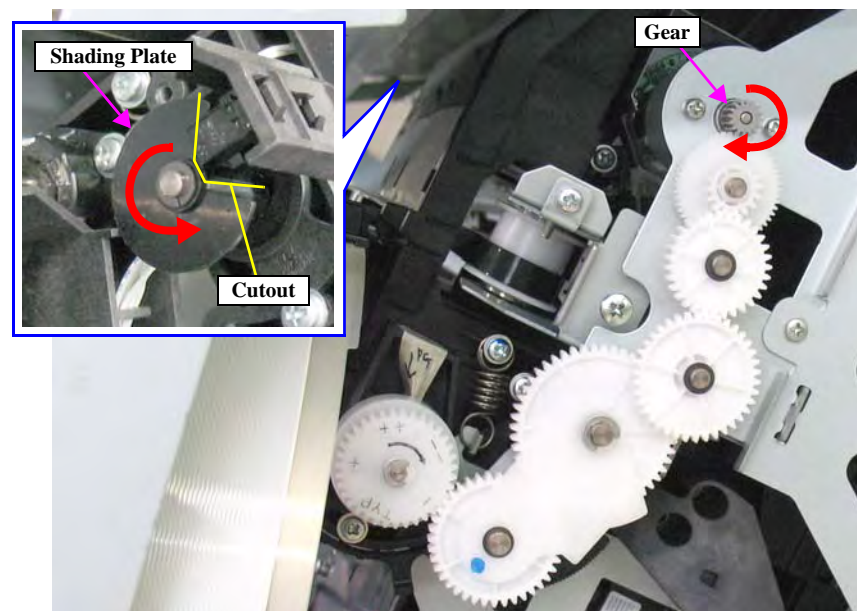

Figure 4-75. Rotating the Shading Plate
7. Rotate the gear shown in Figure 4-75 until the cutout of the shading plate comes in between the sensor's detector as shown in Figure 4-75.